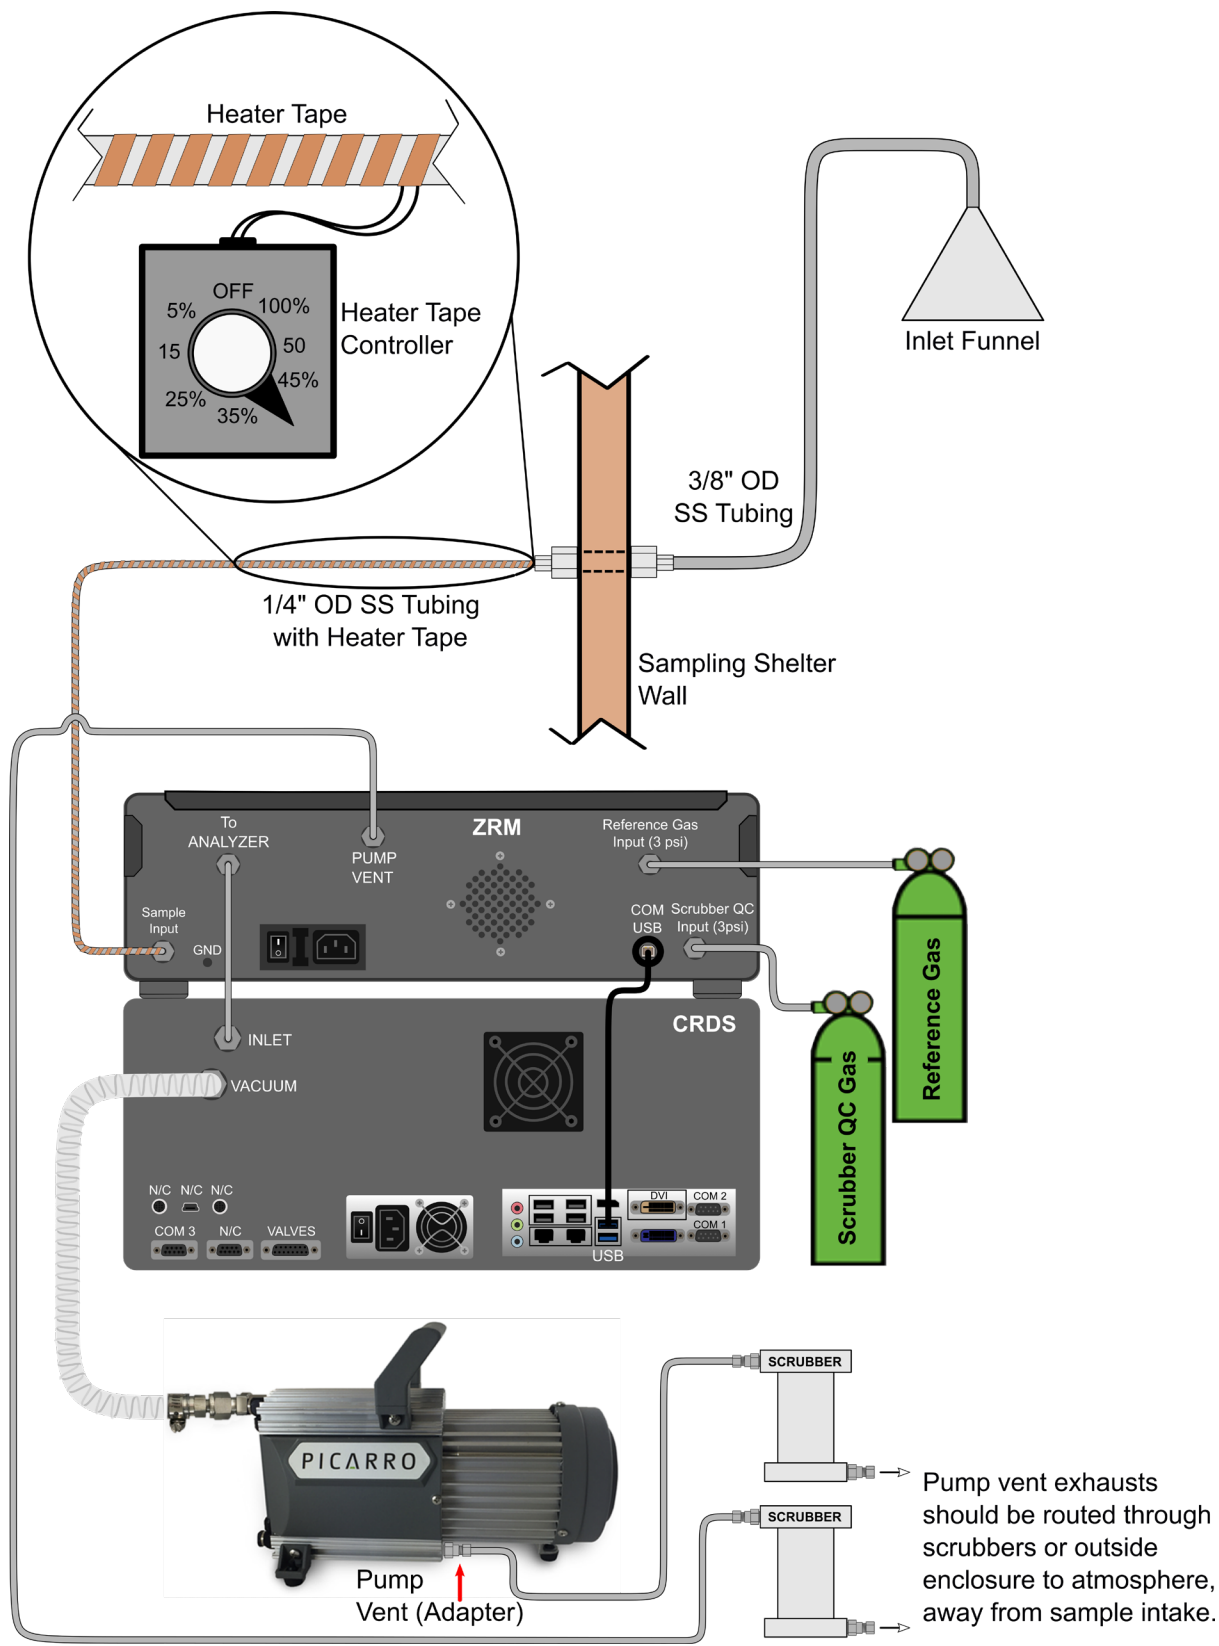

Figure 37: Station Integration Elements
Figure 37 shows a diagram of shelter ZRM/Analyzer elements and connections.
6. Sample lines inside an air-conditioned enclosure or shelter should be heated with heat tape (illustrated in Figure 37) to above the outside dew point. Follow the guidance we provide in **APPENDIX E –Heated Inlet Lines for Station Integration**. This is especially important in areas with high relative humidity, and during summer months.